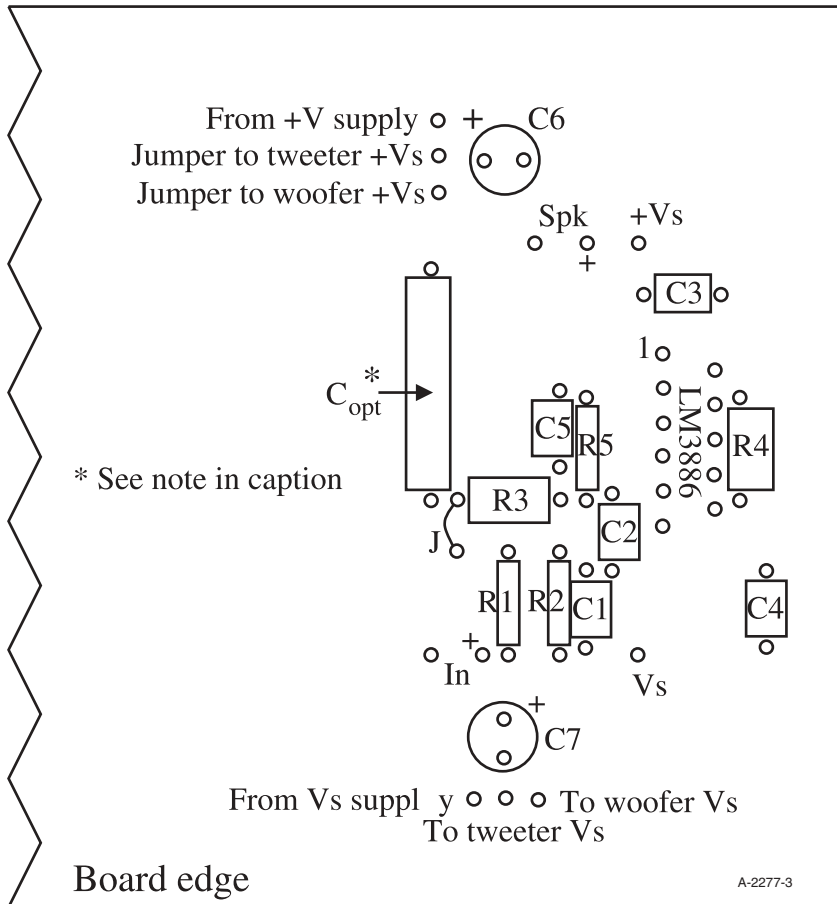

FIGURE 3: Stuffing diagram for one power amplifier viewed from the component side.
**PARTS LIST FOR STUFFING DIAGRAM SHOWN IN FIG. 3. USE JUMPER WIRE J AND OMIT COPT FOR THE WOOFER AMPLIFIER, AND VICE-VERSA FOR THE TWEETER AMP.**
Figure 3 shows where to install components on one amplifier on the board. If you want to use one amplifier for a woofer and one for a tweeter, one amplifier should use the capacitor Copt and the other should short one side of resistor R3 to ground with jumper J. It's easiest if you install the big Copt capacitor on the amplifier where it can be closest to the edge of the board.